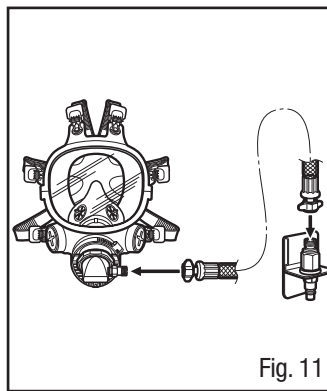

Fig. 11
2. Connect 3M™ Breathing Tube W-3188 to adapter (Fig. 11).
3. Connect 3M™ Breathing Tube W-3188 to air regulator valve (Fig. 11).